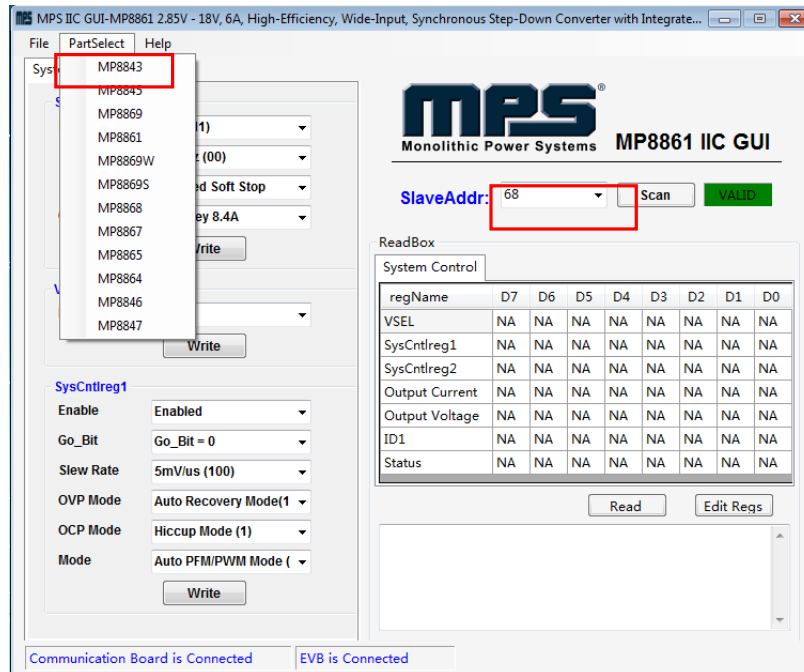
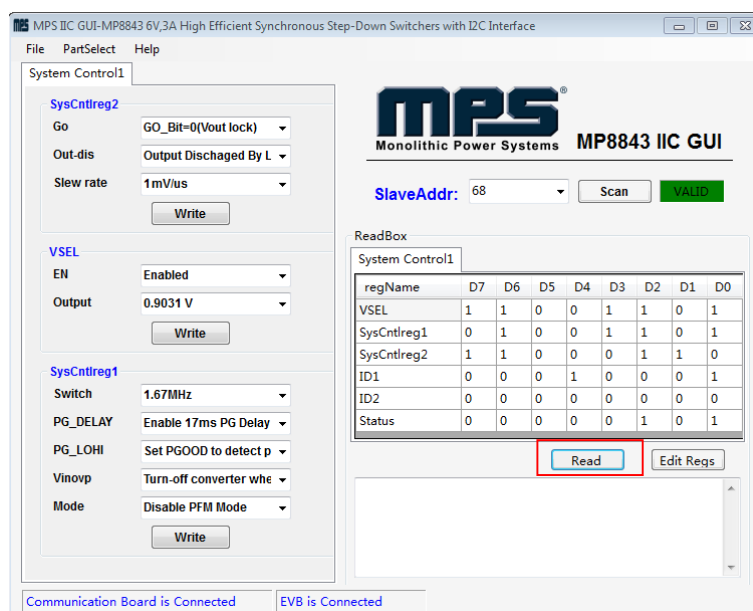

Figure 7: Appearance of Address Shows Successful Connection
Figure 9: Values from I²C Shown in Table
- If connection is successful, the address will be listed in the “Slave Address” (see Figure 7).
- Click the **PartSelect** button to select the MP8843 (see Figure 7) (The default GUI window is for the MP8861). The Register Control menu will appear on the left side. The I²C register values will be read and displayed on the right side after clicking the **Read** button (see Figure 9).